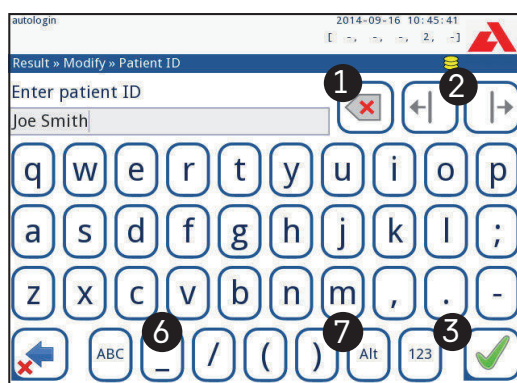

Figure 16: The touch screen keyboard character sets
The virtual keyboard has an alphabetic layout. The user can enter letters, numbers and symbols one at a time. The entered characters are displayed in the input box above the character keys (see Figure 16). Tap backspace (❶) to delete the most recently entered character. Use the cursor arrows (❷) to position the cursor, indicated by a grey vertical line, to a specific character in the string. Use the input mode switch keys (❸, ❹, ❺, and ❻) to switch the displayed character set to a numeric, lowercase and uppercase set, respectively. An extended set of punctuation symbols is also available (❼).